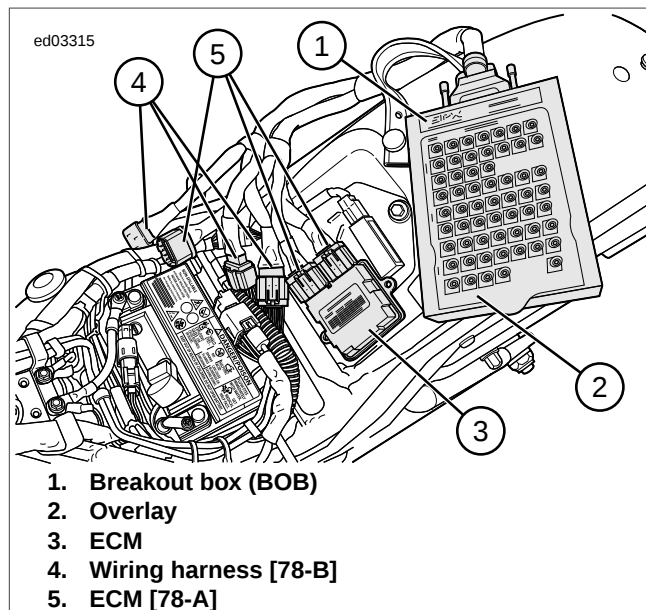

Figure 1-38. ECM Breakout Box Connection: Except FXSB
3. See Figure 1-38. Connect BREAKOUT BOX (Part No. HD-50390-1) and ECM CABLE (Part No. HD-50390-4) to connectors.